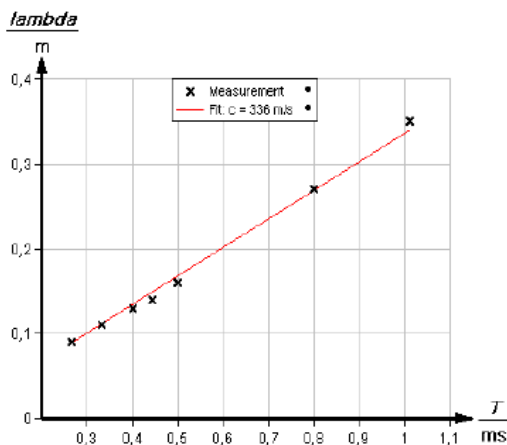
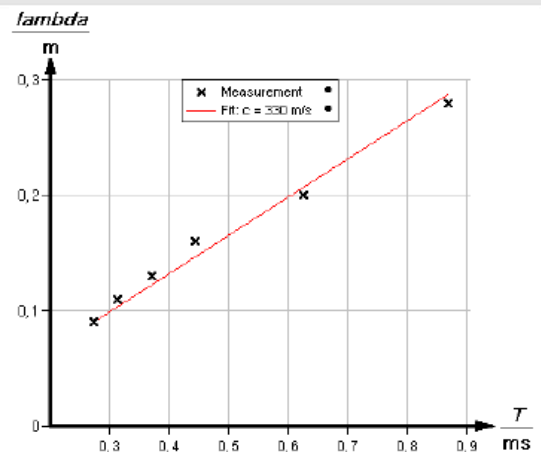

Fig. 2: Measurements for L=615 mm.
Fig. 3: Measurements for L=350 mm.
From Fig. 2, Fig. 3 and equation (2), we obtain the sound speed with 336 m/s and 330 m/s, respectively. The temperature during measurements was 19°C.